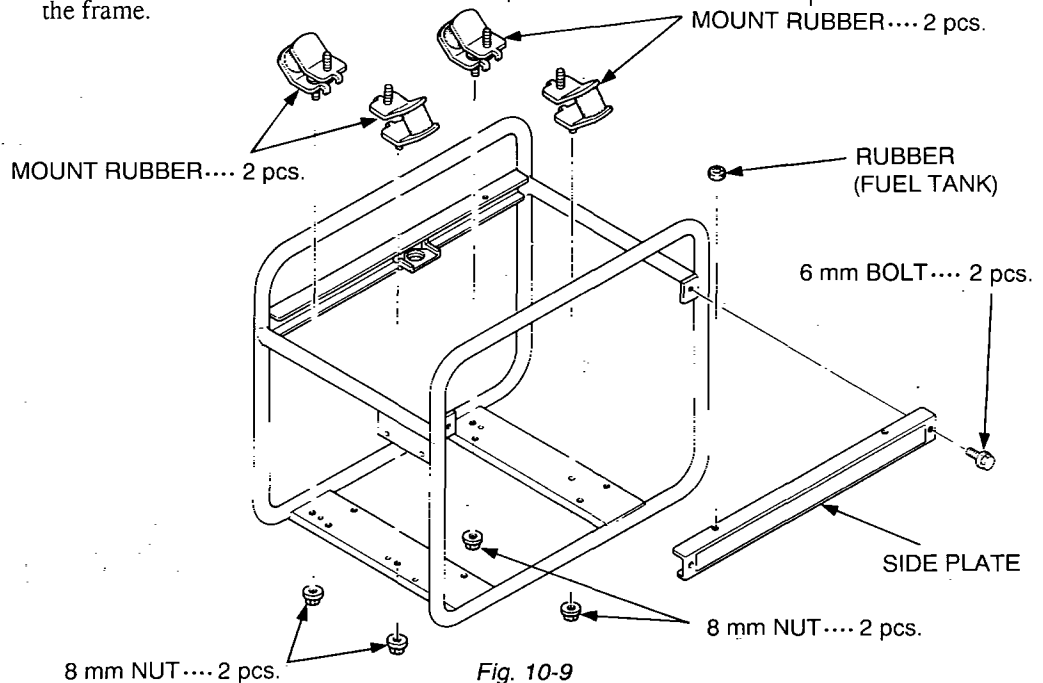

Fig. 10-9
(2) Remove the nuts which fix the engine and alternator on the mount rubbers.		12 mm spanner or box wrench
(3) Dismount the engine and alternator from the frame.	Take out the engine and alternator assy from the side of the frame. (See Fig. 10-9.)